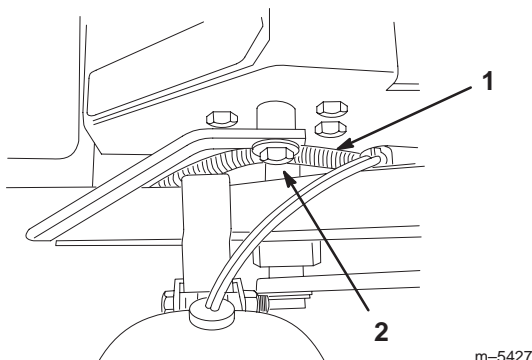

Figure 5
3. Route the harness through the hole in the left side panel. Route it over the frame and deck lift shaft (Fig. 5) and along the bottom of the left-hand frame rail.